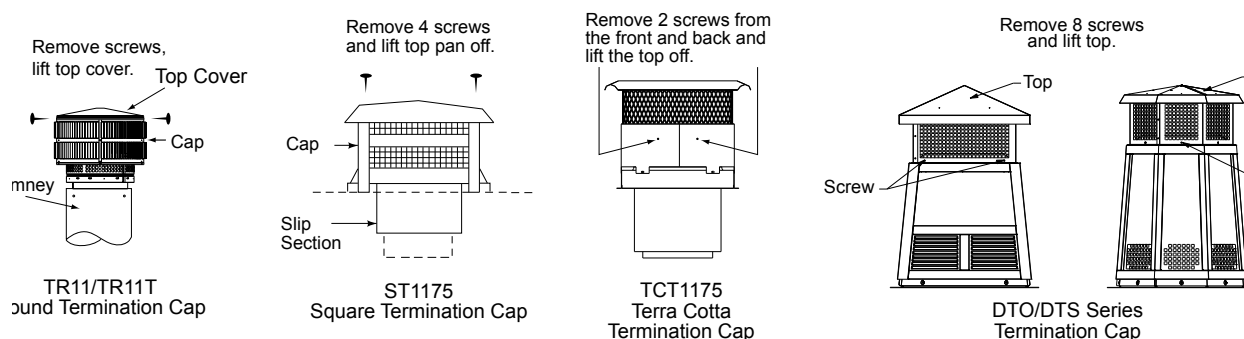

Figure 4.1 Chimney & Termination Cap Cleaning
- Remove the top of the termination cap as shown in Figure 4.1 to clean the cap and chimney.